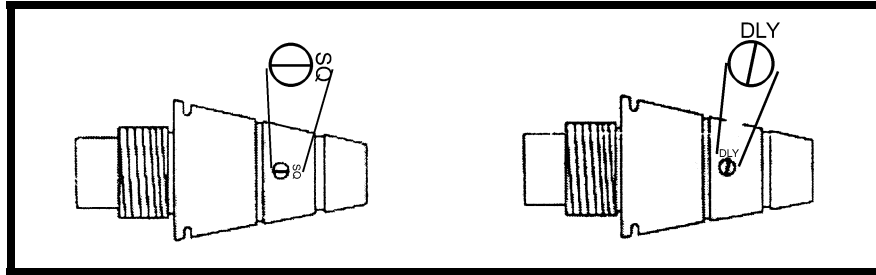

Figure 7-19. Setting the M935 PD fuze.
a. M935 PD Fuze (Figure 7-19, page 7-38).
- (1) Superquick setting.
- (2) Delay setting.